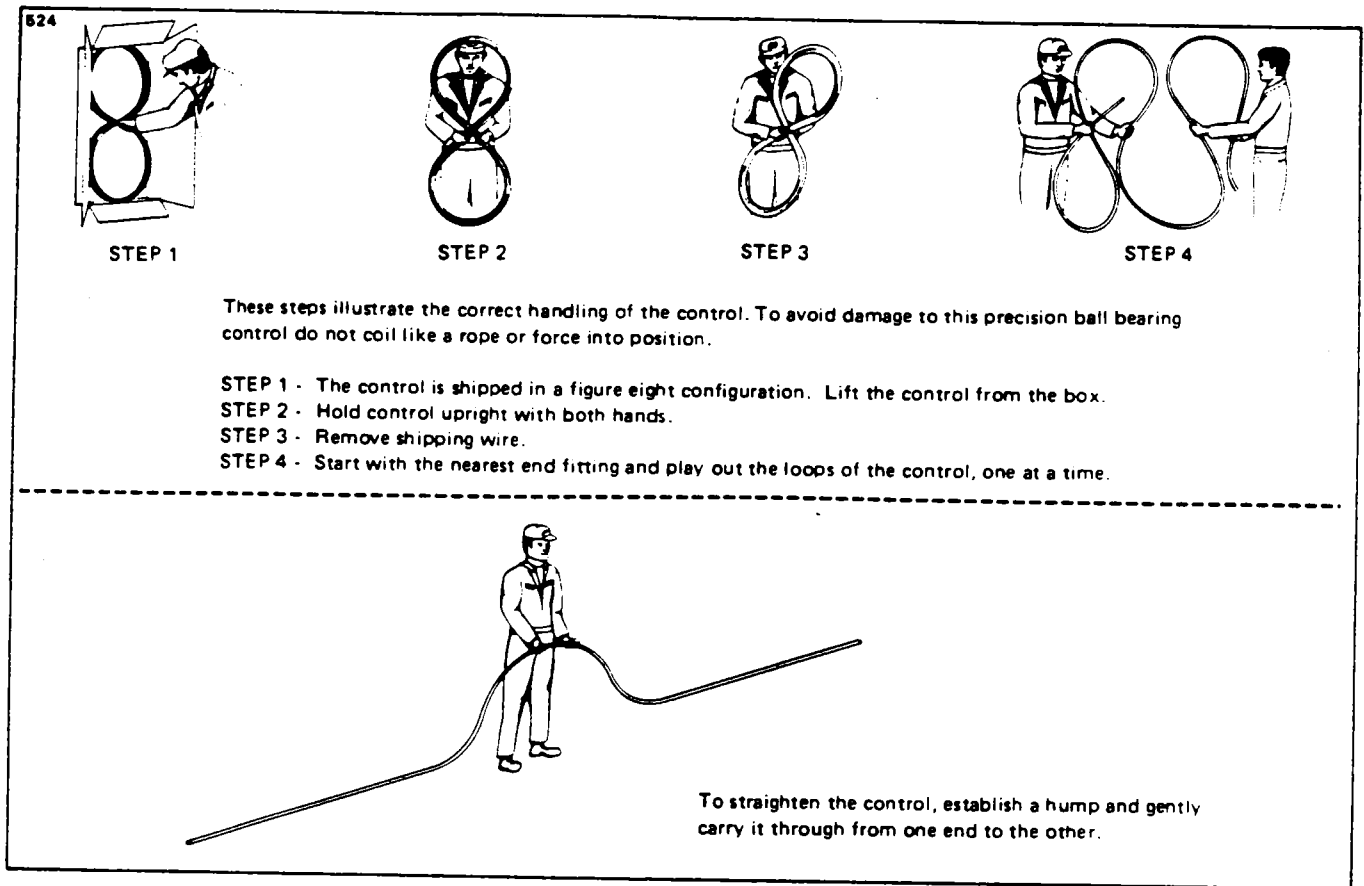

Figure 76-2. Throttle Control Cable Handling Procedure
1. Uncoiling of the cable should be done as shown in Figure 76-2.
2. After the cable has been uncoiled the ribbon should be straightened as shown in Figure 76-2. This assures that the control is not twisted prior to installation.